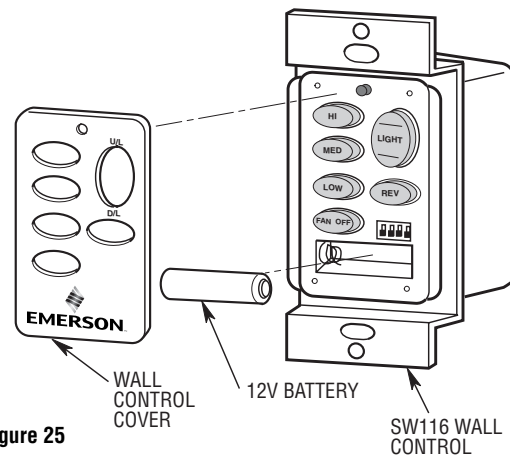

Figure 25
1. Install the 12V battery (supplied) into the wall control (Figure 25).
2. The SW116 wall control is supplied with a white, ivory or almond color cover. Choose the style that best suits your needs and snap the cover onto the wall control (Figure 25).